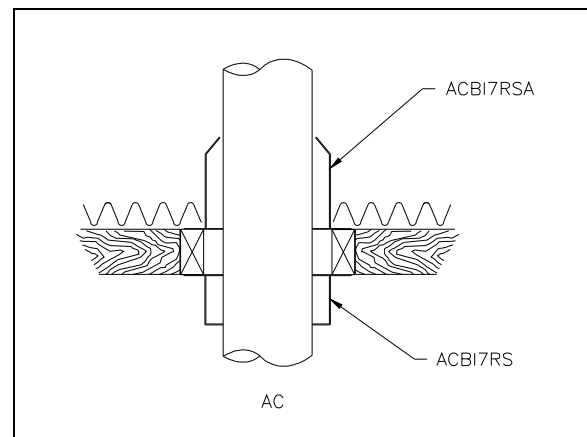

Figure 27
5. From below, install a firestop. (See figure 27).